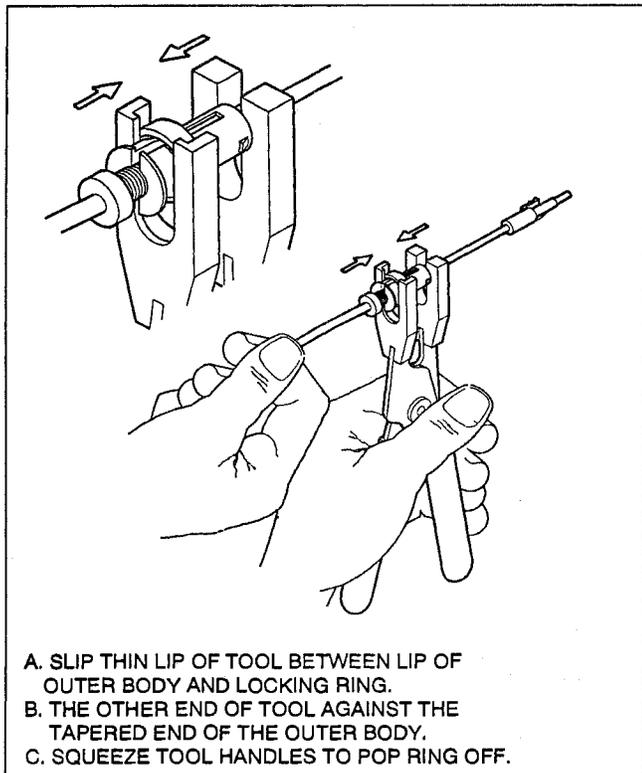

Figure 20 - Unlocking Adjuster Ring on Park Lock Cable
- C. Unlock adjuster ring on cable assembly (48) with tool J 41396. (See Figure 20)